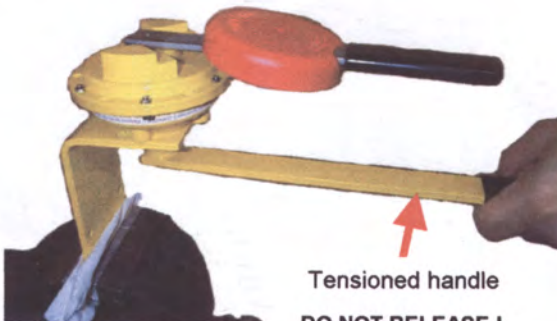

Figure 4
4. Whilst maintaining pressure on handle, allow handle to rotate and unwind about 1/4 turn (90 deg.) in spring direction then refit the manual unit handle, cover and screw as shown in figure 4.